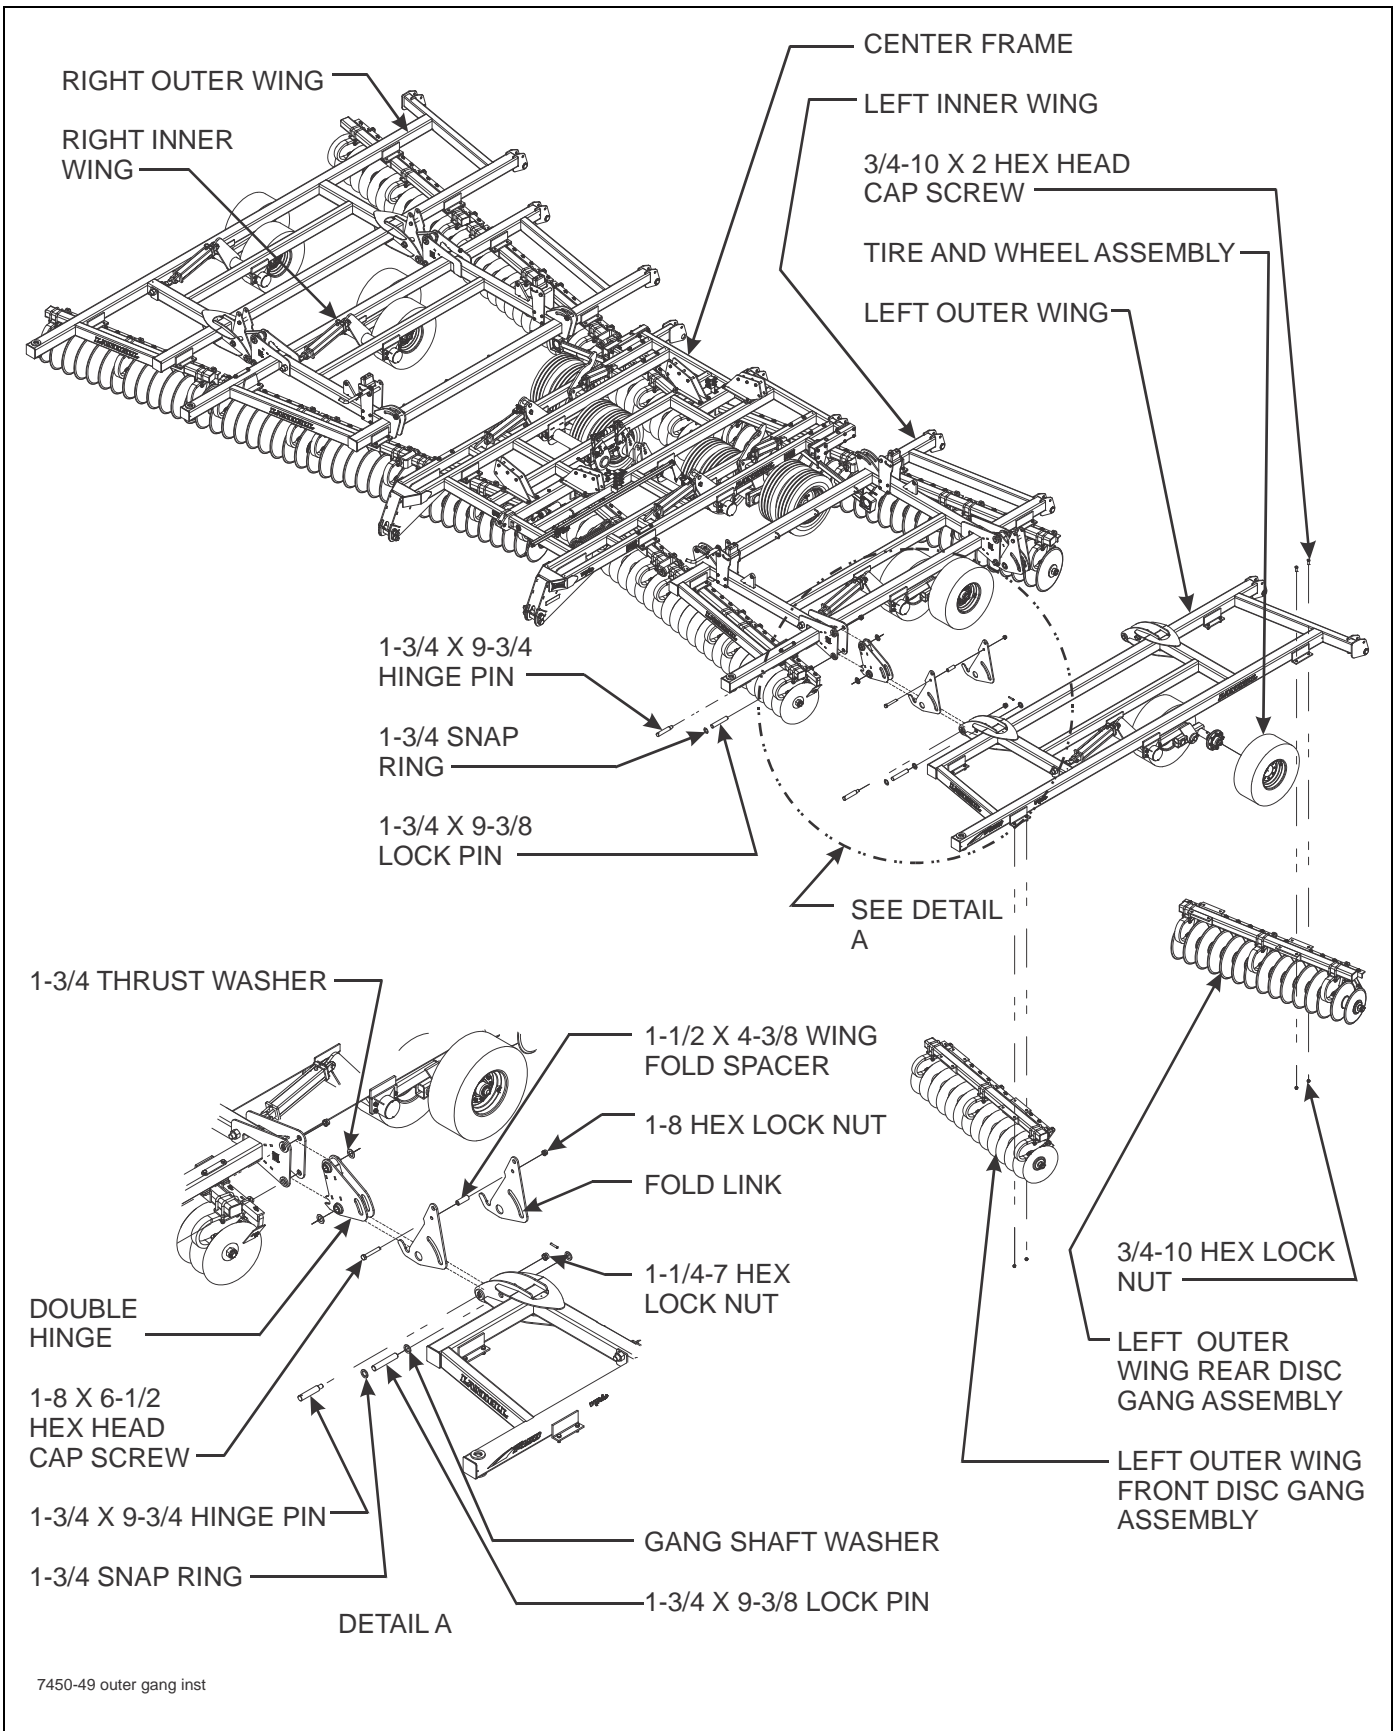

Figure 3-5: Outer Wing Frame Installation
1. Install double hinge and locks to inner wing with thrust washer toward rear of the machine using hinge pin and 1-1/4-7 hex lock nut (See Figures 3-5 and 3-7). Install two fold links per hinge, placing them over the bushing of the double hinge. Insert 1-8 x 6-1/2 hex head cap screw, wing fold spacer, and 1-8 hex lock nut to keep fold links stable while installing outer wing.
2. Attach outer wing with thrust washer toward front of machine (See Figure 3-5. thru 3-7.)
2. Lay the depth stop tube assembly on top of the center frame. Insert a 5/8-11 x 2-1/2 hex head cap screw in the rear hole of the tube assembly from the left side (**See Figure 3-5.**) Install a 5/8-11 hex nut on the screw. Do not over tighten, as the depth stop must pivot on this screw. Insert the screw through the depth stop mounting plate on the center lift and secure with a 5/8-11 hex lock nut.